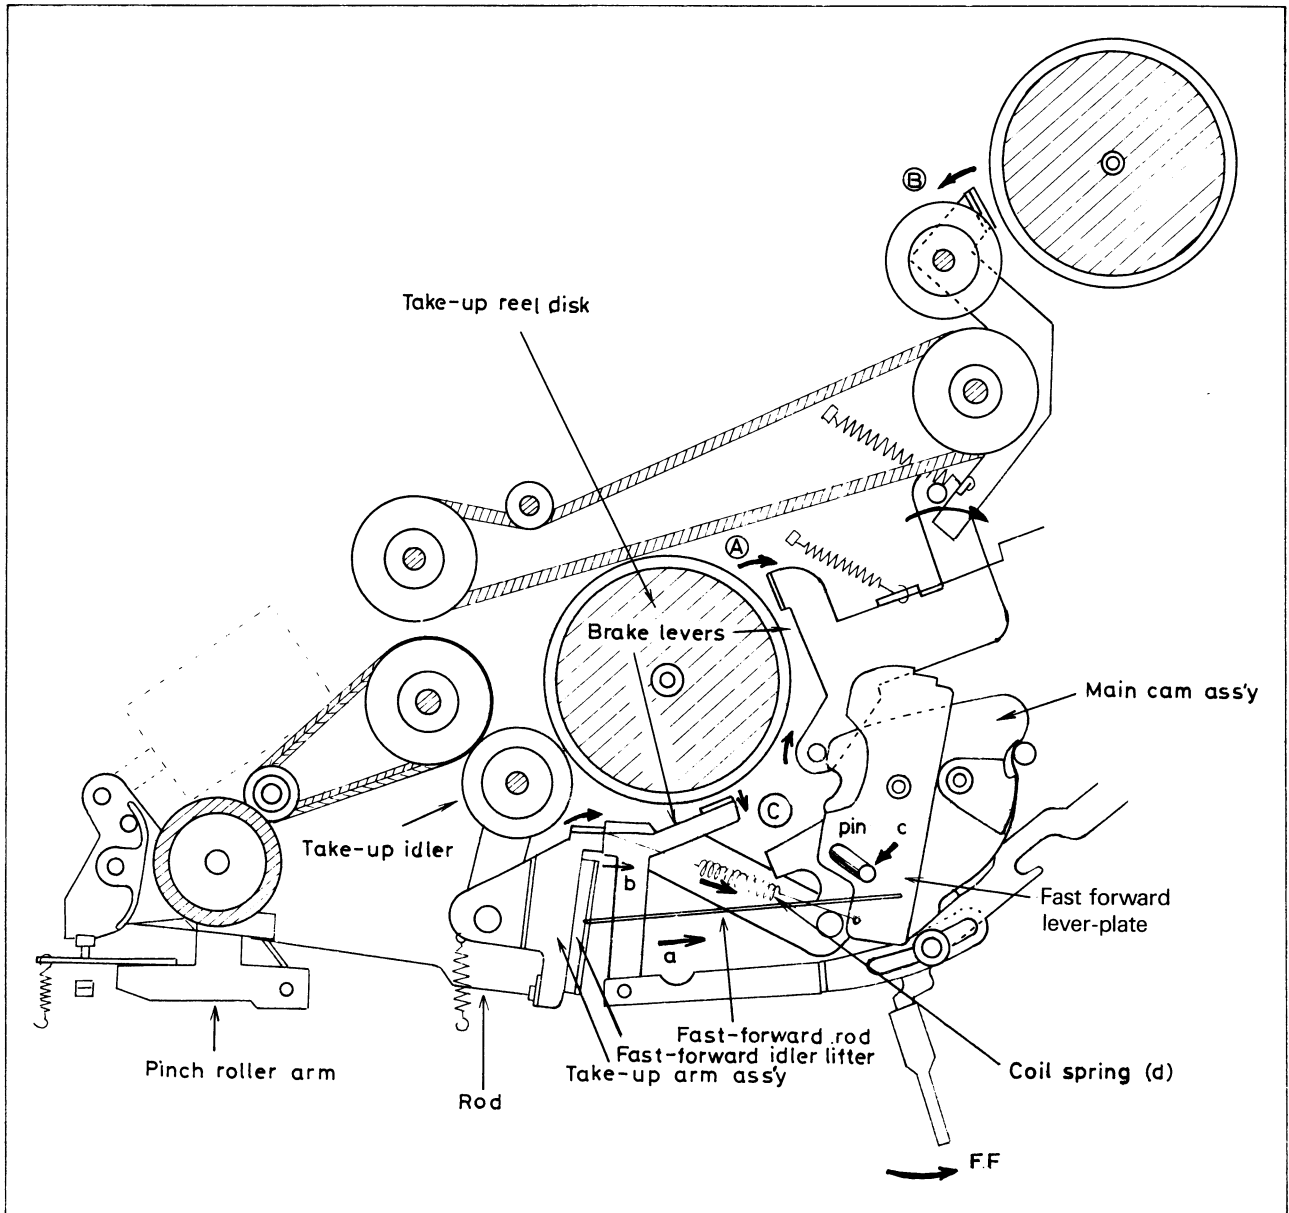

Fig. 3-9. FF mode mechanism
In the fast forward mode, full take-up torque is applied to the take-up reel disk and the brakes are released in direction (A), (B) and (C). See Fig. 3-9.